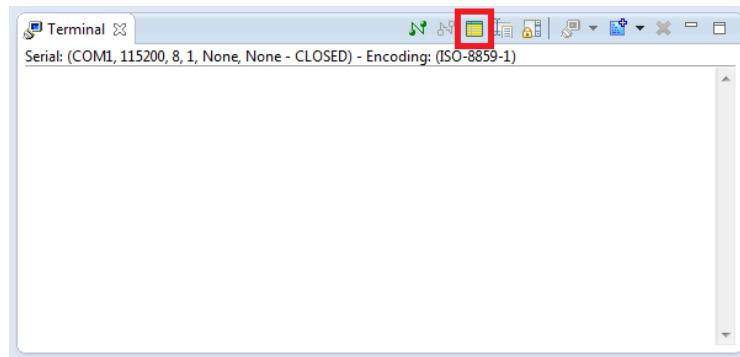

Figure 8-45. ARM DS-5 Serial Terminal
- We will use the built-in serial terminal available in *ARM DS-5*. Go to “Window > Show View > Other... > Terminal > Terminal” to open *ARM DS-5*'s built-in serial terminal. You should see the terminal shown in Figure 8-45.